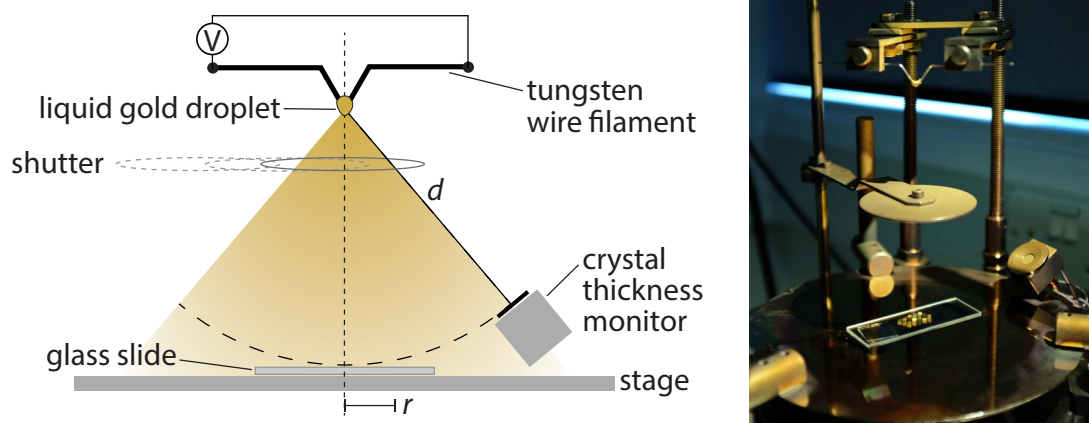

Figure 3: Diagram and photo of evaporation setup.
9. Mount source at a distance d from gold to sample equal to the distance to the crystal thickness monitor (≈ 130 mm). The source should be horizontally level and centered on the stage (Figure 3).